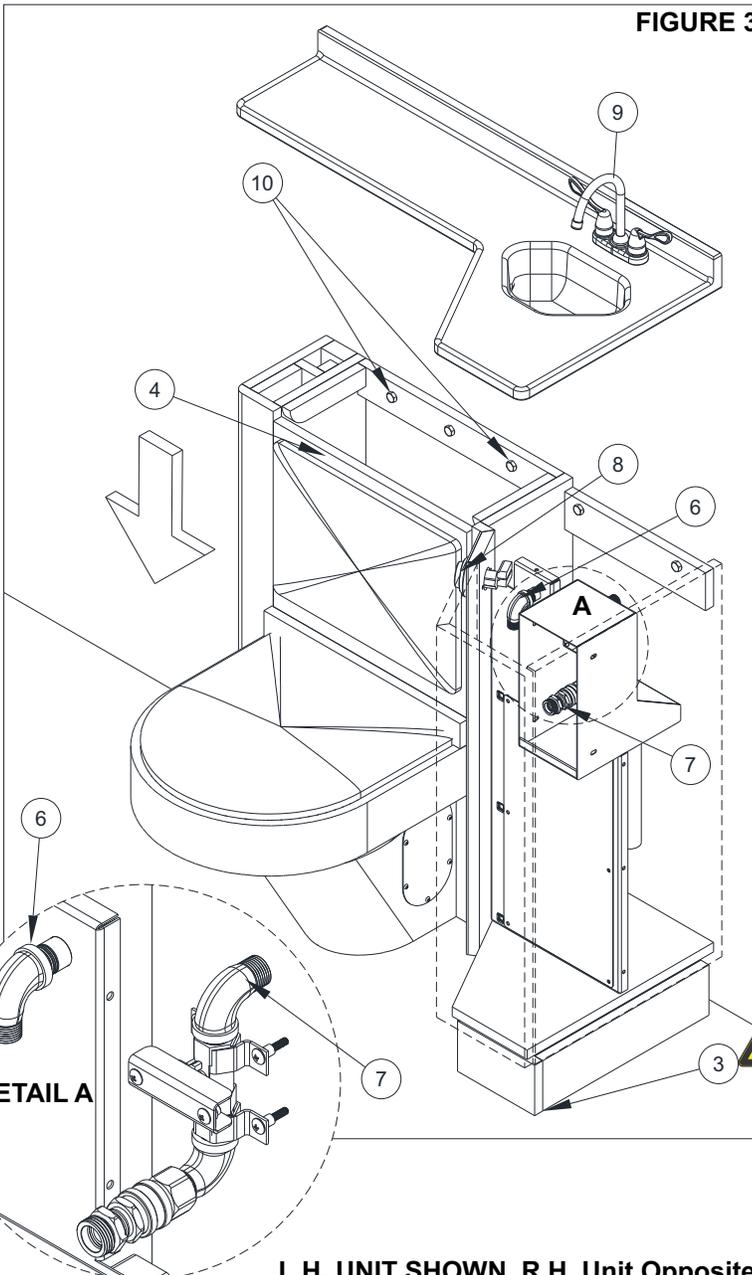

FIGURE 3
- B. Remove Countertop [5]. **Figure 3.**
- C. Lower Cabinet assembly [4] over the Bottom Supports attaching them to the cabinet assembly as required. **Figure 3.**
- D. Make sure Cabinet is square and straight prior to mounting to the wall using Mounting Hardware [10] (By Others). **Figure 3.**
- FCI Infectious Control Valve**Figure 3 & Detail A.**